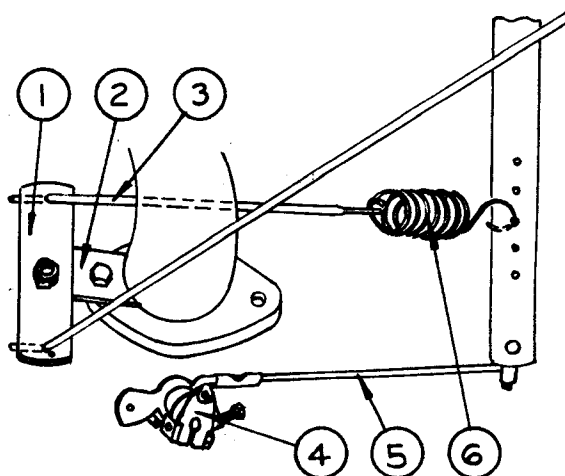
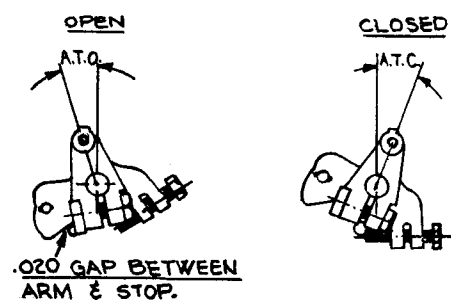

Figure 2
Figure 3
5. Assemble the Governor Control Bracket and Arm (1 and 2 in Figure 2). The Governor Control Arm should move easily with very light pressure.
6. Insert the Governor Control Link (3 in Figure 2) into the hole in the Governor Control Arm, extending it toward the Governor Lever.
7. Mount Bellcrank (4 in Figure 2) to Carburetor, discarding the old Bellcrank. Mount so there is equal travel between a vertical line and wide open, and a vertical center line and closed. Then just barely "crack" the Bellcrank away from the wide open stop with a .020" feeler gauge.
8. Hold the Bellcrank in the wide open position (Figure 3) and the Governor Lever at its stop toward the Tractor. Fit Throttle Linkage Rod (5 in Figure 2) from Bellcrank to the end of the Governor Lever. The Throttle Linkage Rod may be bent slightly. The Rod must fit freely and firmly in place without binding or strain. Attach Rod to Bellcrank with small Clip provided.
9. Insert the Governor Spring (6 in Figure 2) into the center hole in the Governor Lever. Hook Spring into the slot in the Governor Control Link.